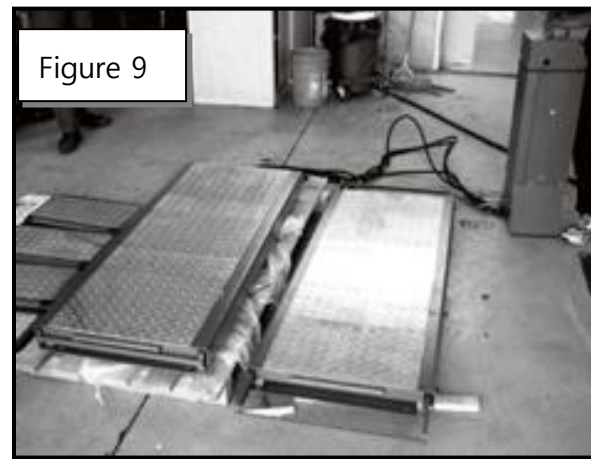

Figure 9
- Set the control station on the appropriate side of the lift for application. (Fig. 9)